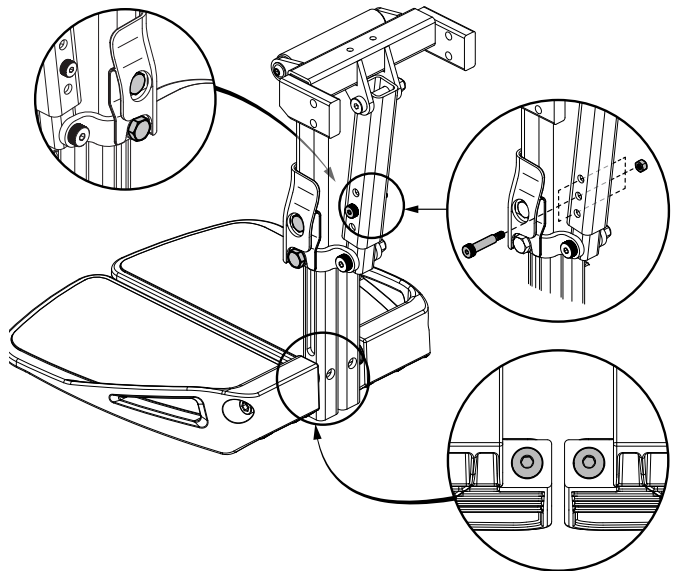

Figure 12. Foot Platform Adjustment
- Position the anchor point for the rear tie-down straps directly behind the rear securement points on the power chair. The front tie-down straps should be anchored to floor points that are spaced wider than the power chair to provide increased stability. **See figure 12.**
See figure 12.
1. Flip up the foot platform and locate the screw. **See figure 12.**